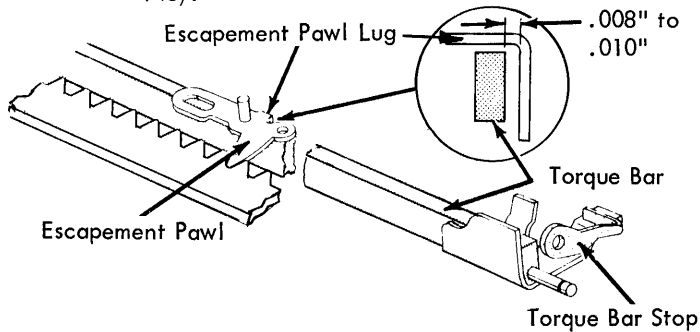

FIGURE 146. Torque Bar Stop (Late)
- a. Late - The torque bar stop located at the right end of the torque bar should be adjusted for a rest position clearance of .008" to .010" between the torque bar and the lug on the escapement pawl (Fig. 146).